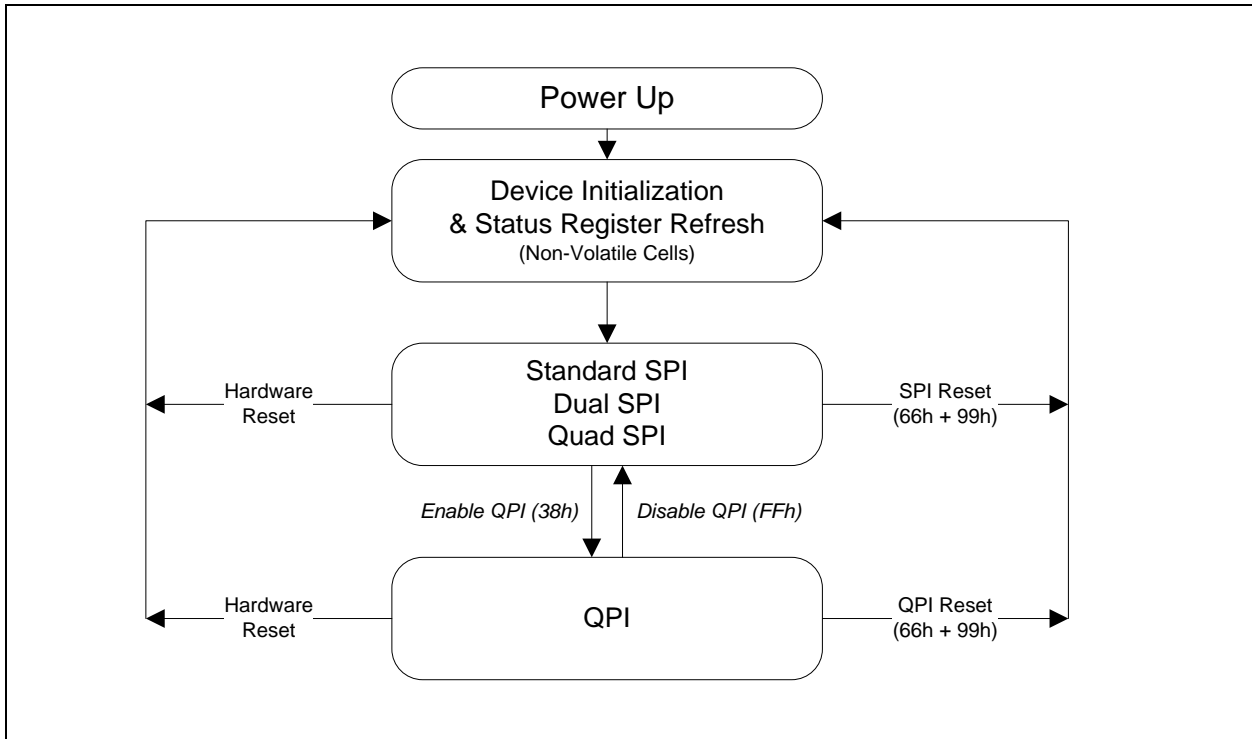

Figure 3. W25Q64JW Serial Flash Memory Operation Diagram
The W25Q64JW supports Quad Peripheral Interface (QPI) operations only when the device is switched from Standard/Dual/Quad SPI mode to QPI mode using the “Enter QPI (38h)” instruction. The typical SPI protocol requires that the byte-long instruction code being shifted into the device only via DI pin in eight serial clocks. The QPI mode utilizes all four IO pins to input the instruction code, thus only two serial clocks are required. This can significantly reduce the SPI instruction overhead and improve system performance in an XIP environment. Standard/Dual/Quad SPI mode and QPI mode are exclusive. Only one mode can be active at any given time. “Enter QPI (38h)” and “Exit QPI (FFh)” instructions are used to switch between these two modes. Upon power-up or after a software reset using “Reset (99h)” instruction, the default state of the device is Standard/Dual/Quad SPI mode. To enable QPI mode, the non-volatile Quad Enable bit (QE) in Status Register-2 is required to be set. When using QPI instructions, the DI and DO pins become bidirectional IO0 and IO1, and the /WP and /HOLD pins become IO2 and IO3 respectively. See Figure 3 for the device operation modes.